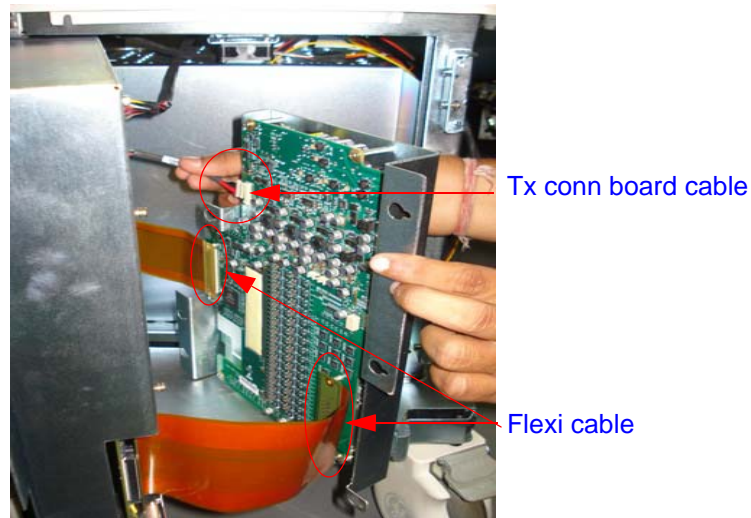

Figure 8-63 Removing TX conn board cable & Flexi cable
- 4) Remove the Tx conn board cable, Refer Figure 8-63 on page 8-63
5) Remove the two flexi cable from TX board as shown below in Figure 8-63 on page 8-63
- 4) Remove the Tx conn board cable. Refer Figure 8-63 on page 8-63